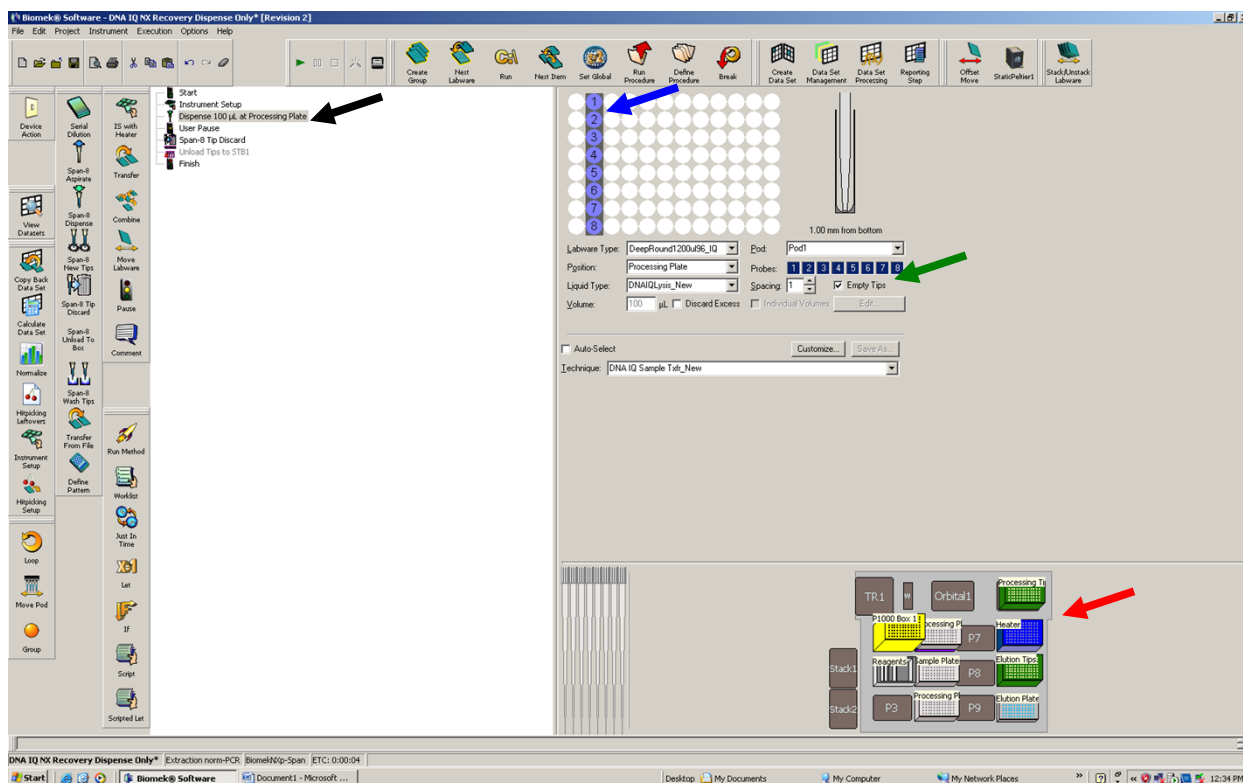

Figure 2. Shows where to designate the location, labware, and volume for the dispense step.
- 1.1.3.1 Click on the “Dispense” line of the method (shown in Figure 2, black arrow).
- 1.1.3.2 Select the labware that the liquid is going to be dispensed into by clicking on it on the deck layout (shown in Figure 2, red arrow). Verify that the labware type and position are correct.
- 1.1.3.3 Check to make sure the “Empty Tips” box is checked (shown in Figure 2, green arrow) to dispense all of the liquid in the tips.
- 1.1.3.4 Designate the wells where the liquid will be dispensed by selecting them on the plate diagram (shown in Figure 2, blue arrow).